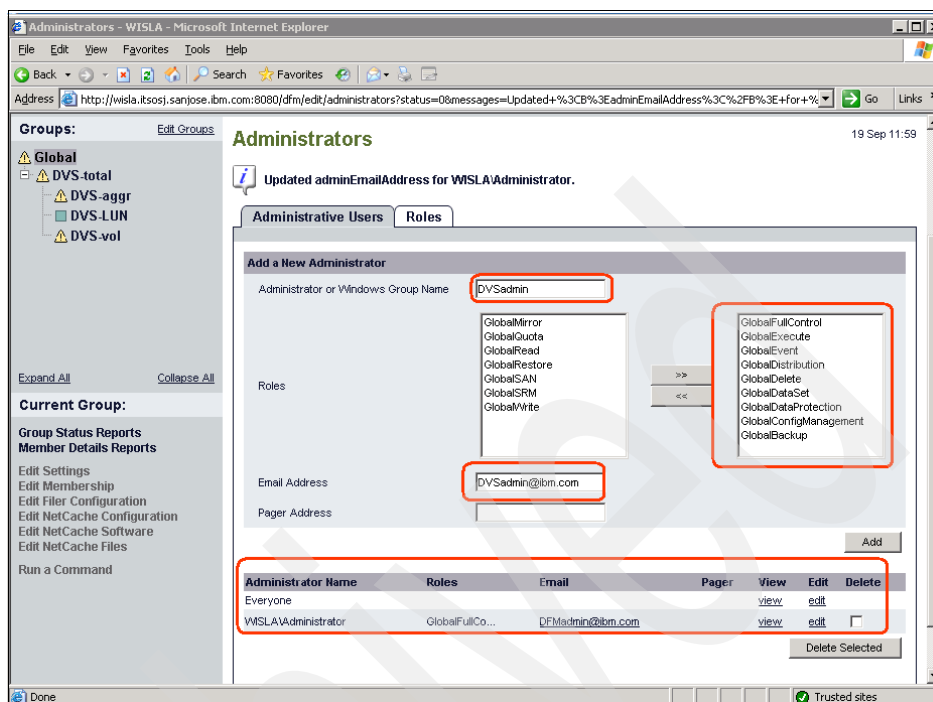

Figure 10-16 Configure recipients in DFM
3. Specify the recipients of the alarm notification on the Recipients Administrative Users page, which you can get to by clicking **Control Center** → **Administration** → **Administrative Users**, as shown in Figure 10-16 on page 371. On this page, you can configure the recipients name, role, and contact information, such as e-mail address or pager address. In Figure 10-16 on page 371, we can see that two other administrators already exist.